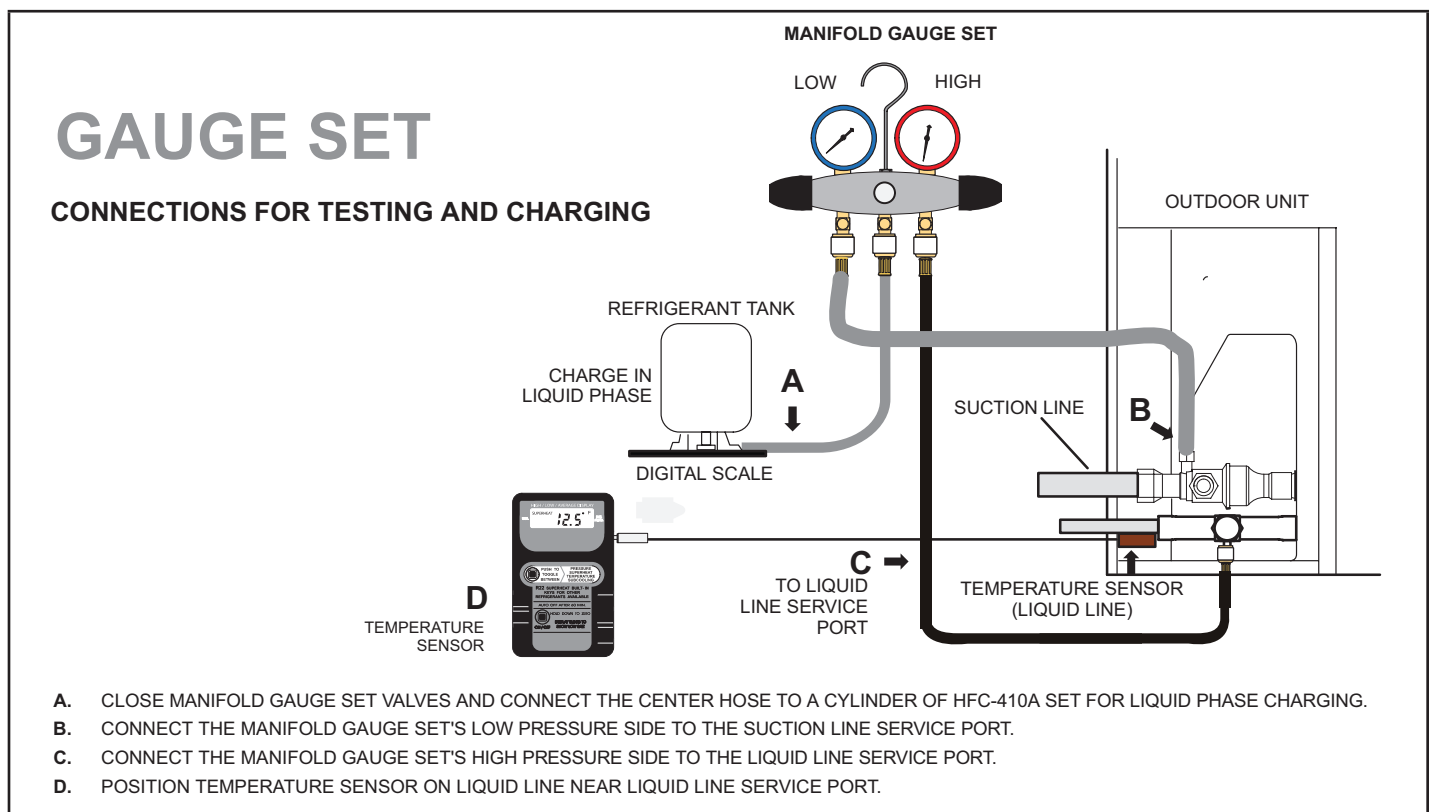

FIGURE 51. Gauge Set Connections
- 1 - Connect a gauge set for testing and charging as illustrated in figure 51.